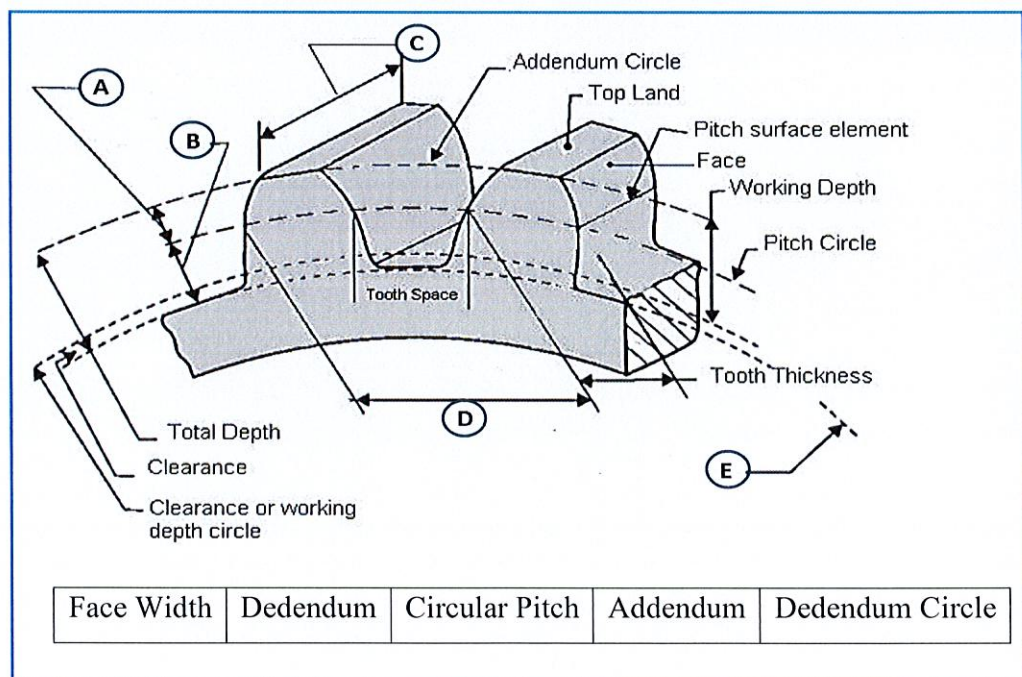

Figure 4(b) / Rajah 4(b)
- b) Match **FIVE (5)** suitable answer based on Figure 4(b) below :